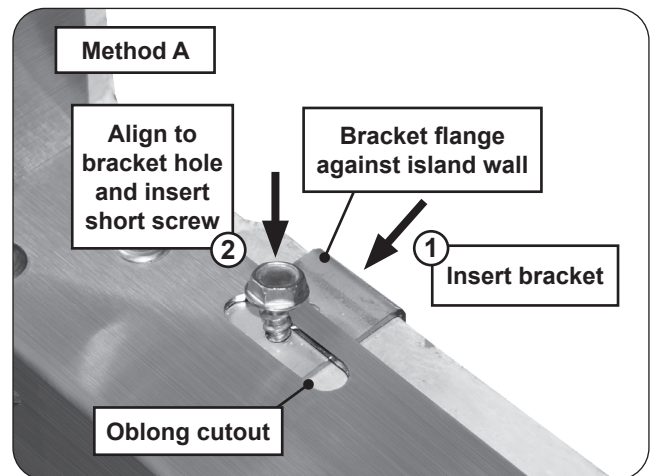

Fig. 3-2 Method A install detail
1. Use the oblong cutouts (or round holes) on opposite sides of the frame (either top and bottom or left and right). Reach from within the island and insert a bracket where a cutout exists, **between the wall and frame**. See Fig. 3-2, step 1.
2. While holding the rear of the bracket and the front of the frame **firmly** against the concrete wall, align a bracket hole to the frame's oblong cutout and insert a supplied short hex screw. Tighten the hex screw with a power drill and  $5/16$ " hex driver (see Fig. 3-2, step 2). **DO NOT OVERTIGHTEN.**